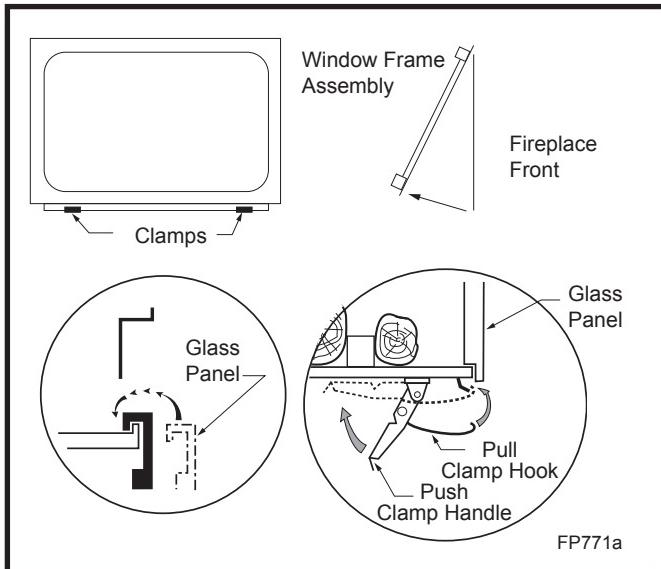

Fig. 48 Window frame assembly removal.
- Release the two clamps along lower edge of the frame by pulling down on clamp handles. (Fig. 48)